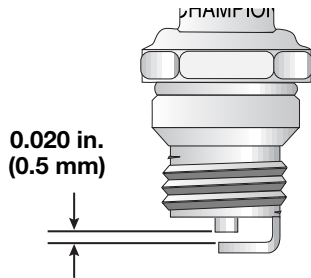

Fig. 15
3. Replace a cracked, fouled or dirty spark plug. Set the air gap at **0.020 in. (0.5 mm)** using a feeler gauge (Fig. 15).